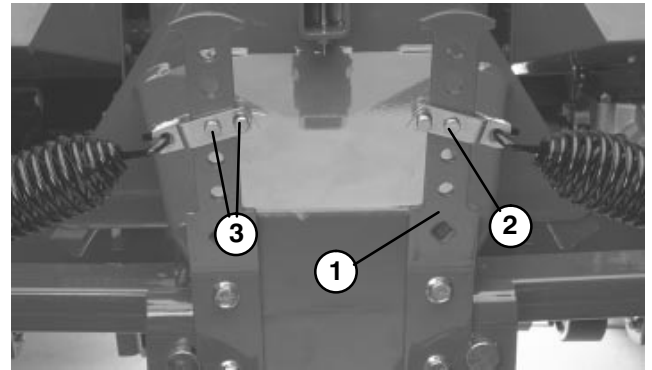

Figure 33
- Secure other end of spring to appropriate hole on counterbalance arm with spring shackle, clevis pin and cotter pin (Fig. 33) as follows: